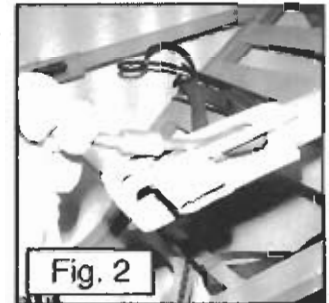

Fig. 2
**B.** Take one end of the cable and begin to slide it down into the tubing, as shown in **Figure 2**. Once the cable is easily sliding into the tubing (it helps to bend the cable upward while pushing down on it), you are ready to place it in its final position.